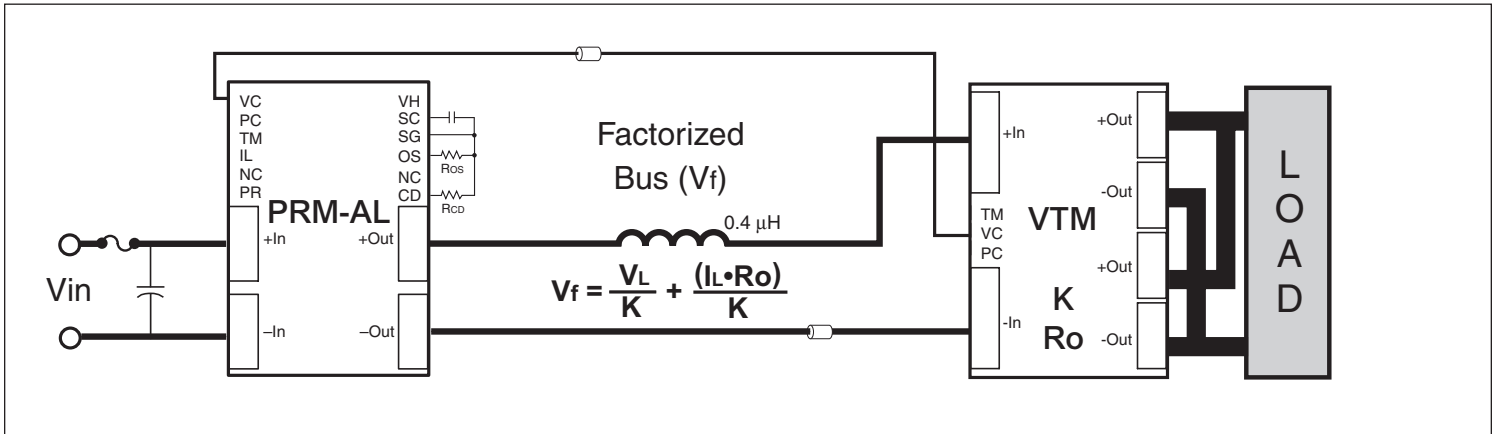

Figure 16 — Adaptive Loop compensation with soft start using the SC port.
- Vf = PRM output voltage, the Factorized Bus (see Figure 16)
An external capacitor can be added to the SC port as shown in Figure 16 to control the output voltage slew rate for soft start.